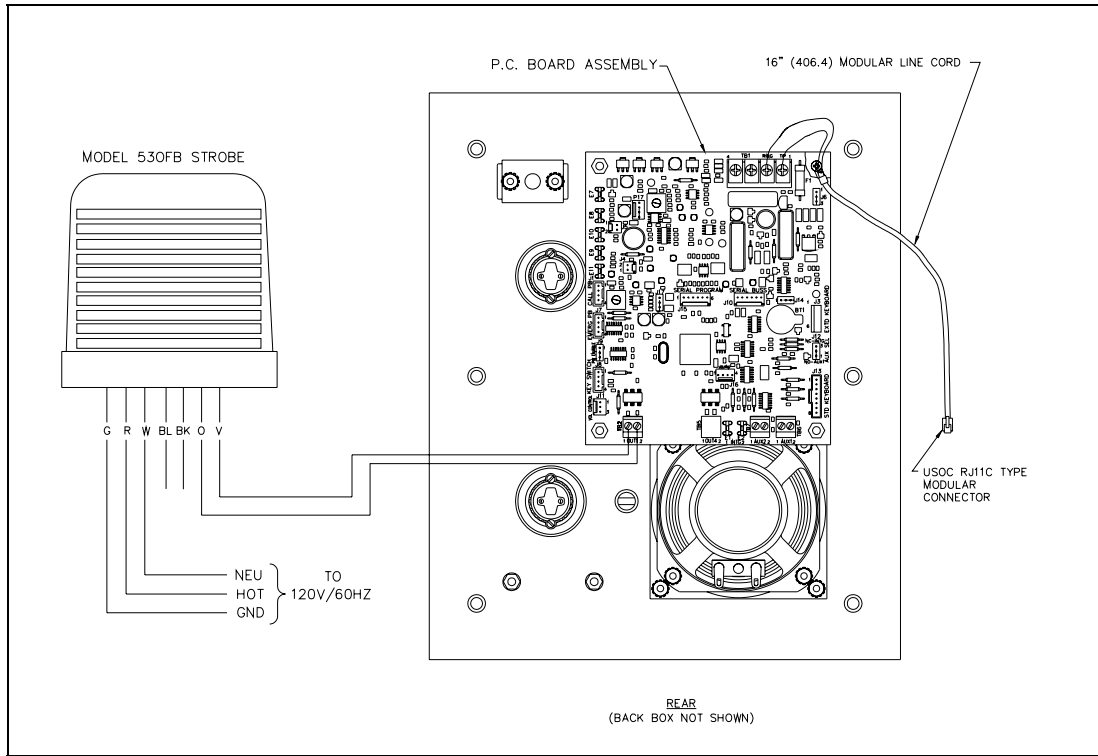

Figure 12. Model 297-001 and 298-001 - Component Locations
Figure 12 above shows a typical connection detail of the GAI-Tronics 530FB/531A Beacon (sold separately).
1. Connect keypad to connector J13. See Figure 8 and Figure 12 for details. Contact GAI-Tronics Field Service Department for details.